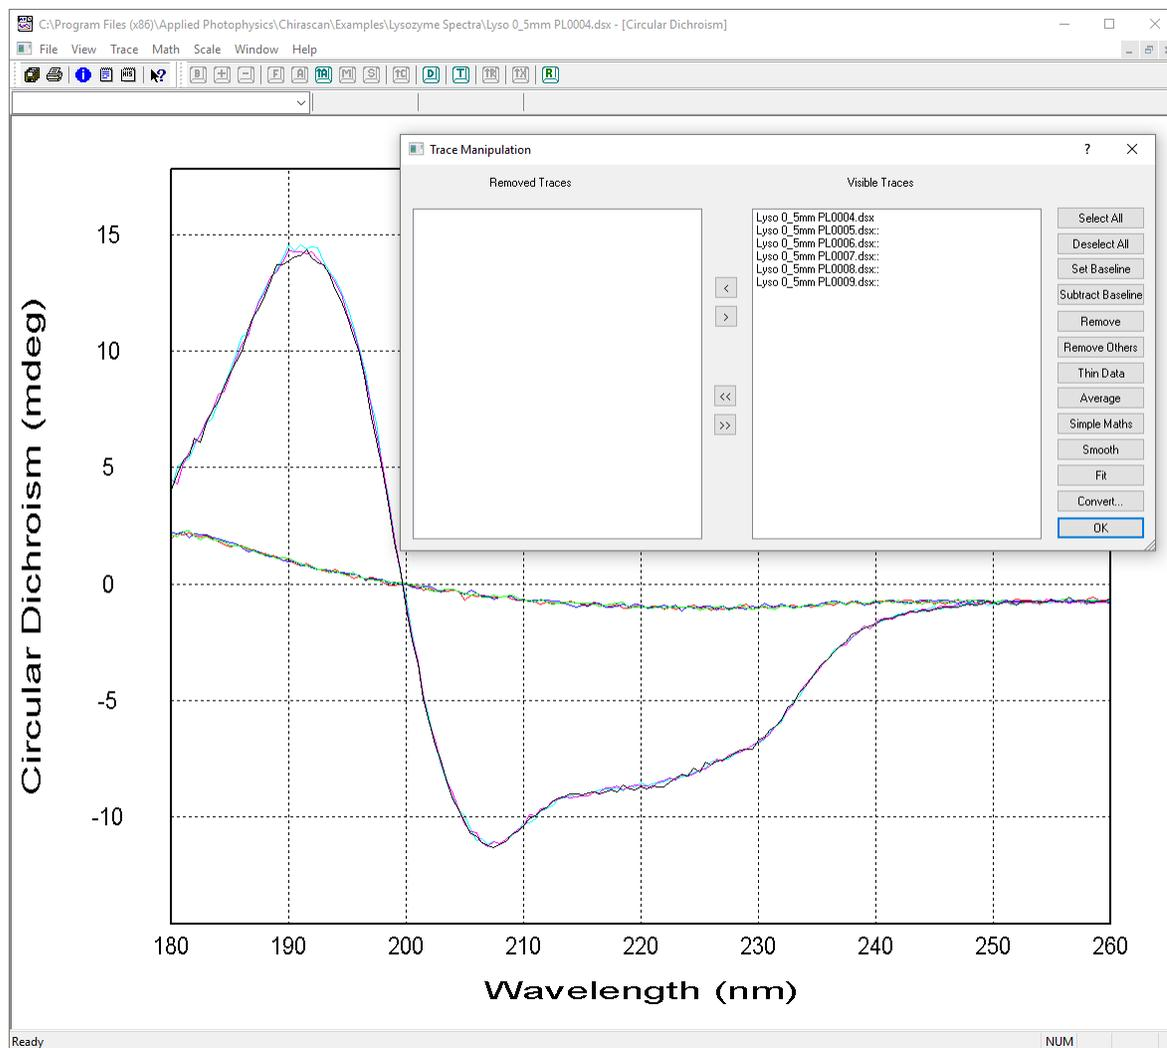

Figure 6: Raw data with Trace Manipulation dialog called up
3. Click on  in the Graphical Display^[105] toolbar to call up the Trace Manipulation dialog^[113] (Figure 6).